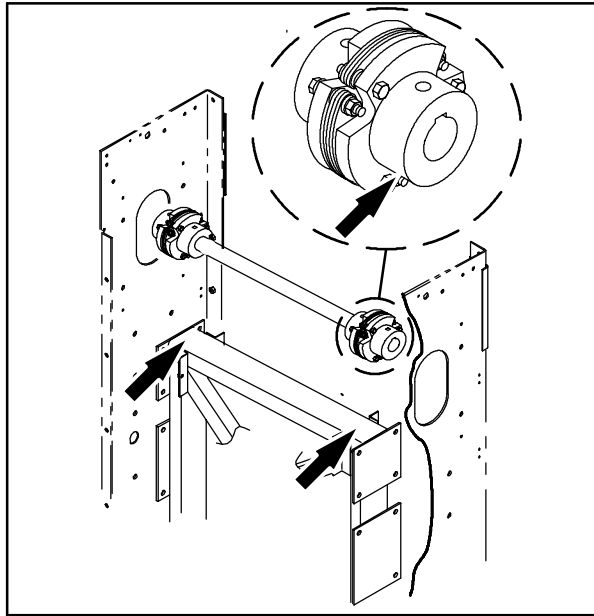

FIG. 2
3. Position a small bottle jack on the conveyor frame so the jack is underneath the part of the conveyor coupling assembly nearest either the left or right side panel. Refer to arrows in Fig. 2 for where bottle jack should be positioned.